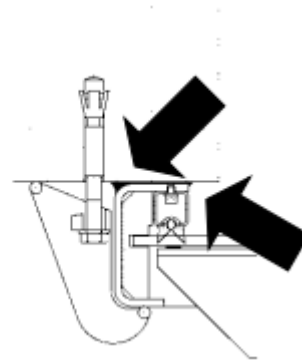
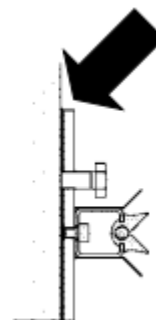

Fig. 5
Fig. 7
- When tightening the bolts, the sealant gets squeezed out on both sides of the frame. Smoothen sealant with finger to a clean grout (Fig. 5).
- For Sluice gate valves with transverse seal an additional grout is necessary after tightening between wall and transverse seal acc. Fig. 7.
- After mounting the actuating components (acc. 3.4) the Sluice gate valve shall be opened and the sealant on the inside of the frame and transverse seal shall be smoothened to a clean grout acc. Fig. 5 and Fig. 7.